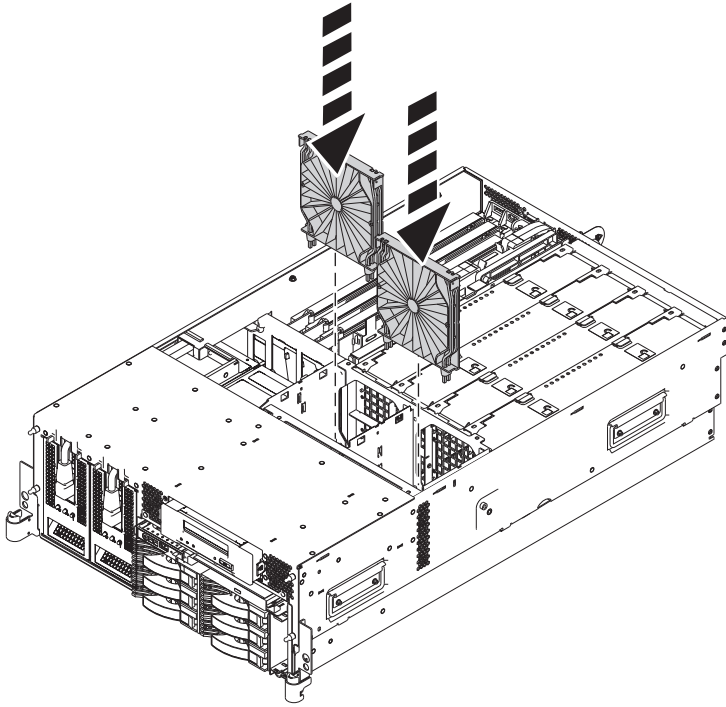

Figure 31. Installing the air baffles in the 8204-E8A or 9409-M50 fan cage
- 2) To install the air baffles, insert the air baffles into their location in the fan cage, and push down until they lock into place, as shown in Figure 31 on page 30.